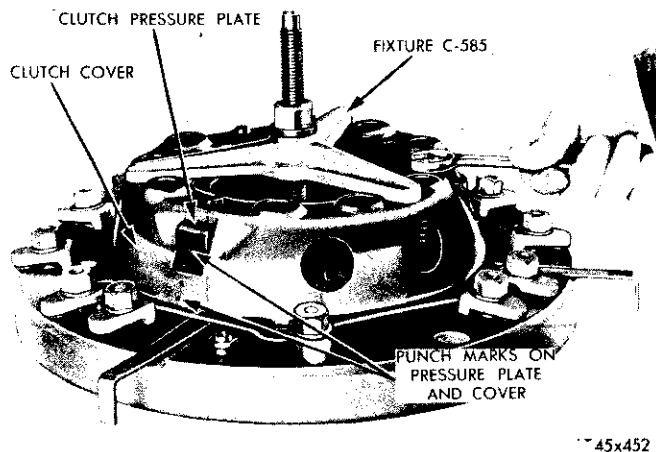

Fig. 3—Clutch Cover and Pressure Plate Assembly in Fixture
(1) Place the cover assembly on the adjusting fixture, Tool C-585A.
(2) Place the three-legged spider over the center screw, so that the legs are located midway between the staked nuts. Install the thrust washer and compression nut. Tighten the nut until the cover contacts the base of the fixture (Fig. 3).
(3) Remove the three eye-bolt nuts, then remove the compression nut, washer and spider.
(4) Remove the clutch cover, the springs and the rollers.